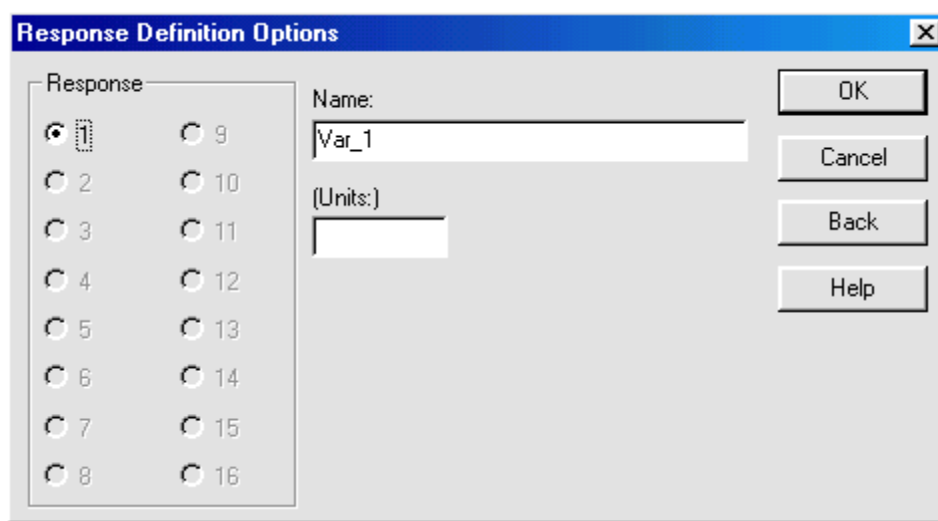

Figure 8-3. *Response Definition Options Dialog Box*
5. Click OK to display the Response Definition Options dialog box shown in Figure 8-3.